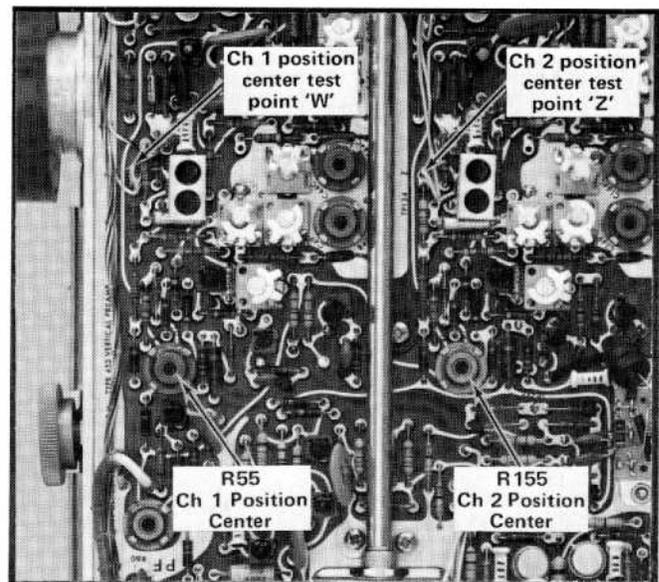

Fig. 5-8. Location of position center test points and adjustments (Vertical Preamp board).
- Connect the DC voltmeter between pin connector "Z" on the Vertical Preamp board (see Fig. 5-8) and chassis ground.
d. ADJUST—CH 2 Position Center adjustment R155 (see Fig. 5-8) to position the trace to the center line.
f. Connect the DC voltmeter between pin connector "W" on the Vertical Preamp board (see Fig. 5-8) and chassis ground.
i. ADJUST—CH 1 Position Center adjustment R55 (see Fig. 5-8) to position the trace to the center line.